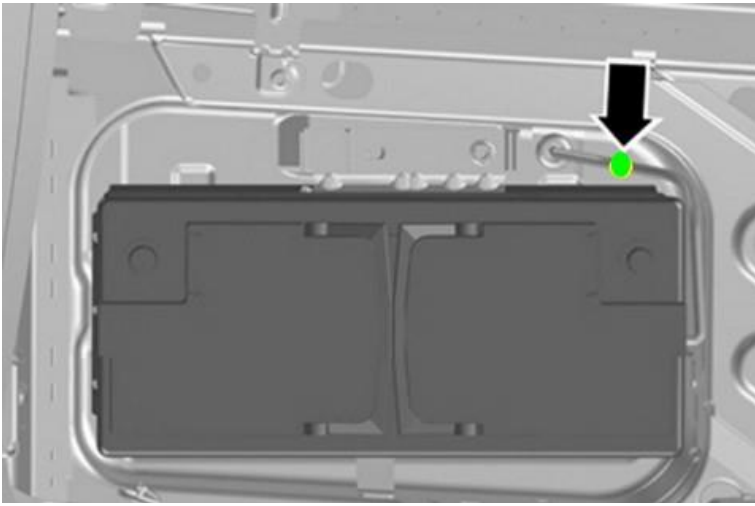

Figure 6
- 13) Place a green paint completion mark as shown within the Identification section (Figure 6)
Green paint completion mark on the 12 volt battery vent hose (Figure 6)